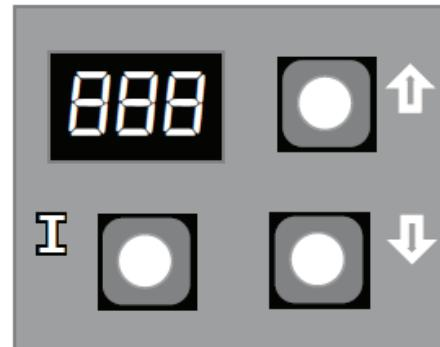

Figure 1 Control Display
The control is located on the front panel inside the boiler. The control display, along with Up , Down , and "I" keys may be used to view boiler operating status and program parameters (Figure 1).
1. Press with Up ▲, Down ▼, and “I” keys (see Figure 1) simultaneously for three seconds.